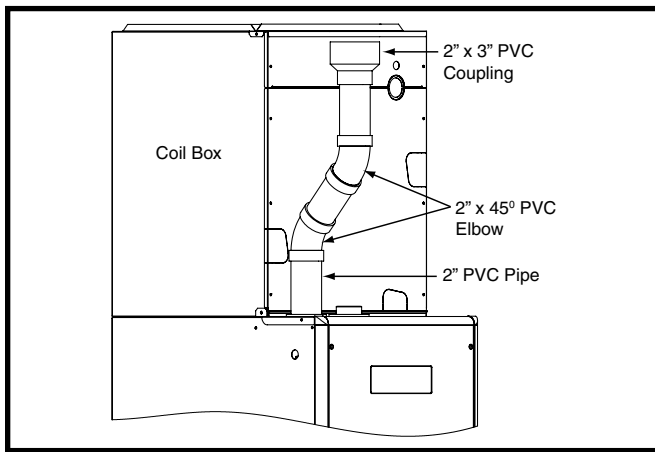

Figure 22. Optional PVC Pipe Installation
- If the size of the PVC flue needs to be increased from 2" to 3", two, 2" x 45° PVC elbows may be used to achieve the clearances needed between the coil box and the 2" x 3" coupling. See Figure 22 \(page 22\).